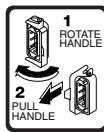

FIGURE B-12 External Power Supply Label
An external power supply label providing handle rotation and forward pull instructions, as shown in FIGURE B-12, appears at the upper left corner of each of the six (6) power supplies.